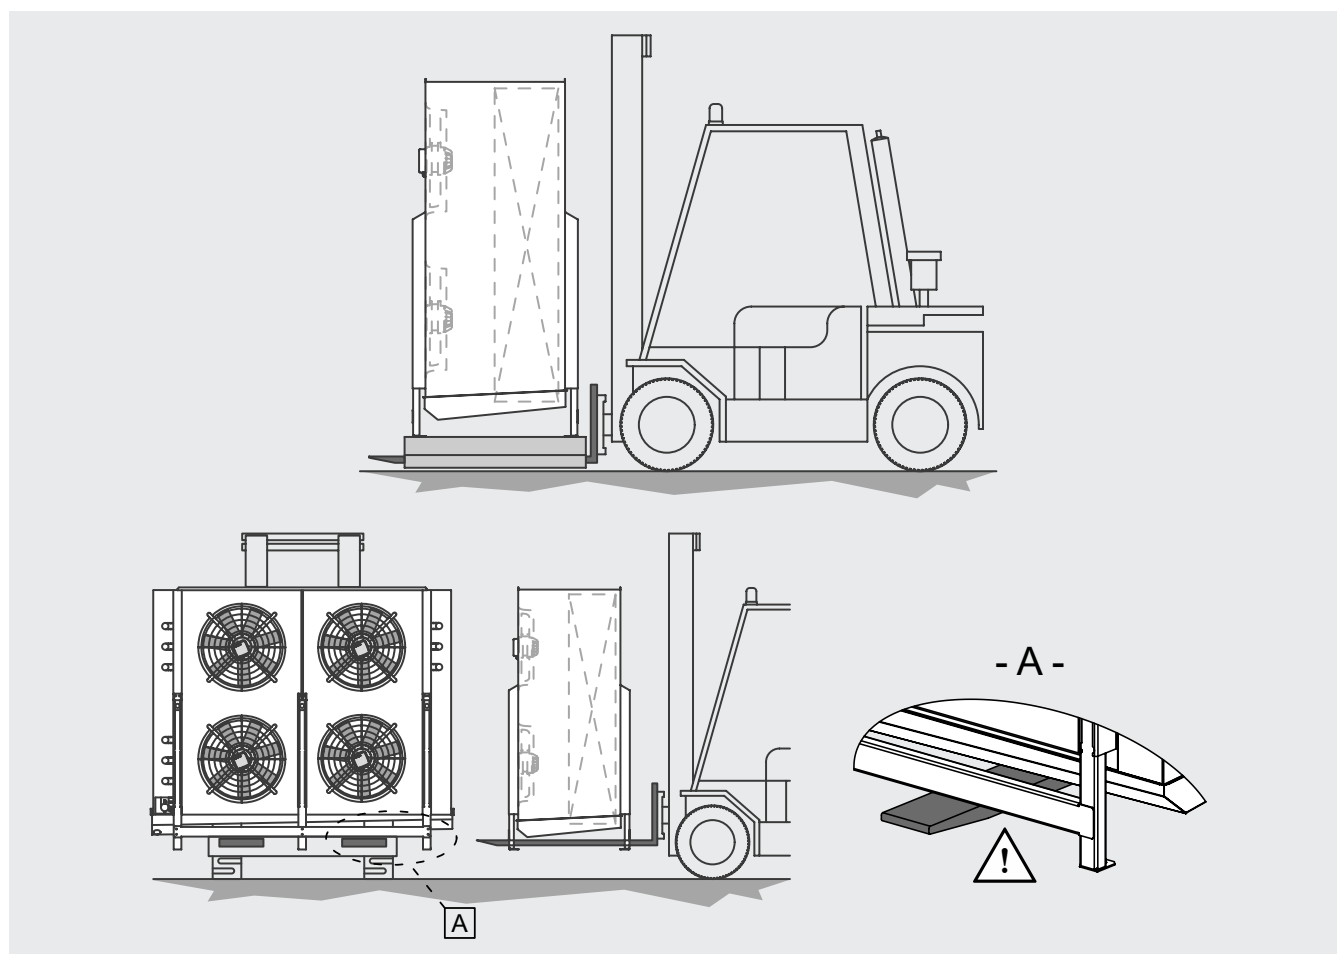

Figure 2
- 5.2 The packaged model must be moved by qualified personnel using a forklift truck of suitable capacity, or with crane and/or overhead crane (see Chapter 7). The lifting brackets must be longer than the depth of the packaging and/or of the model. Avoid any abrupt movement and do not stand close to the manoeuvring area. Always ensure that the models are secured to the hoists before handling operations. A heavy impact or a strong thrust can overturn the model. See Figure 2.